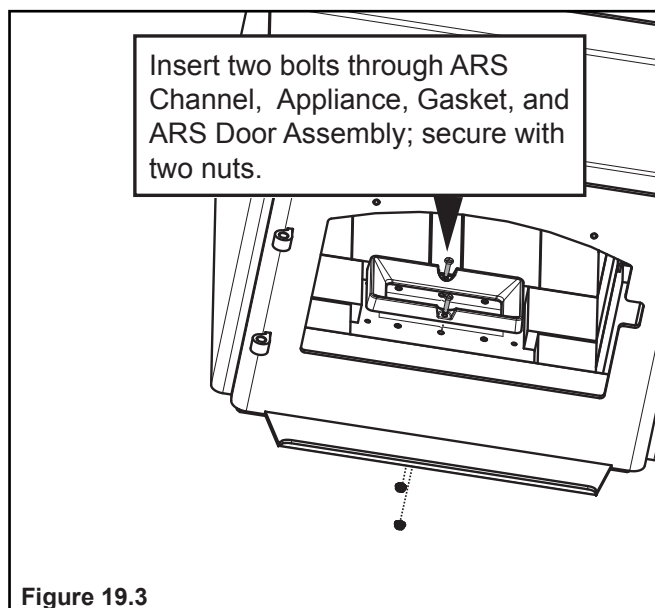

Figure 19.3
11. Using two bolts and two flange nuts to secure ARS channel using 3/8 open end wrench and 7/16 socket wrench (**Figure 19.3 on page 19**).
11. Use 2 bolts and 2 flange nuts to secure ARS channel using 3/8 open end wrench and 7/16 socket wrench (**Figure 19.3 on page 19**).